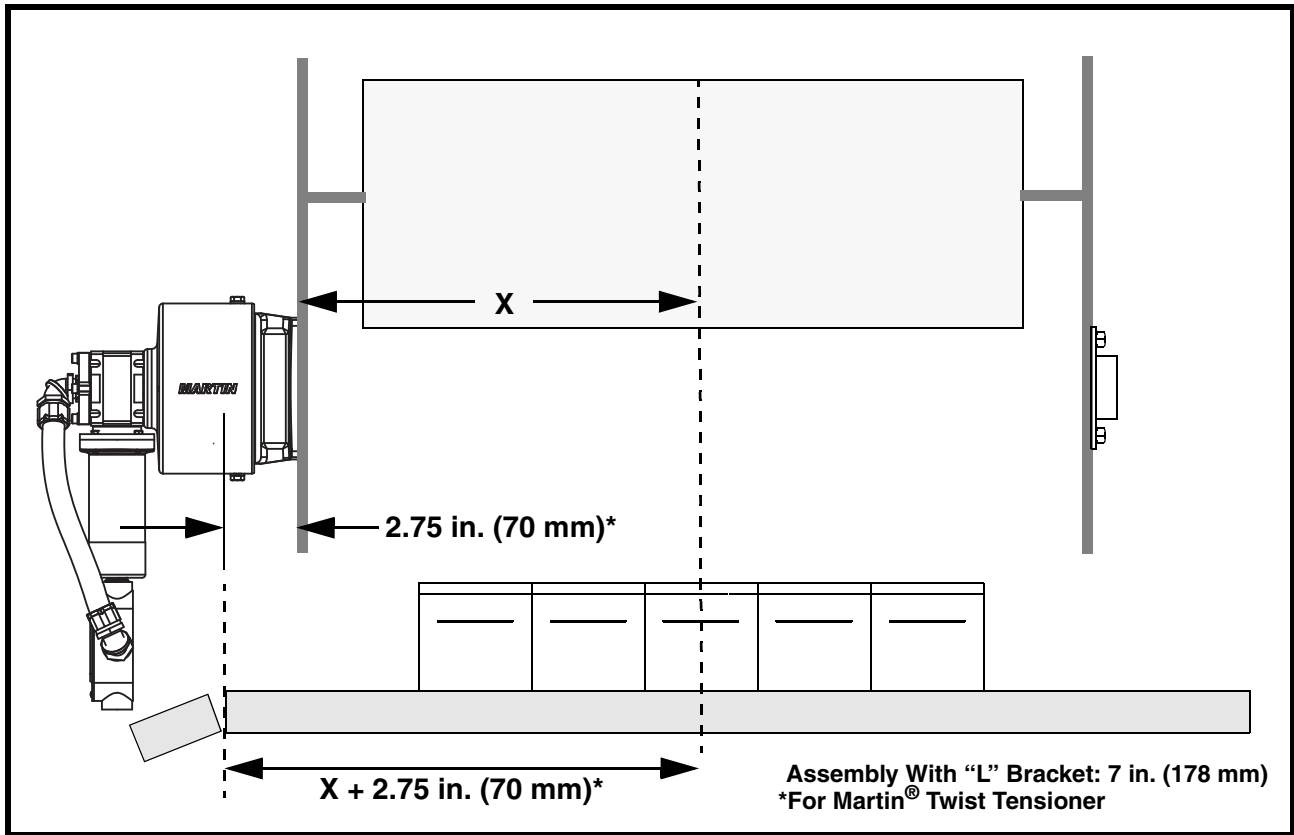

Figure 6. Cutting Belt Cleaner Mainframe
1. See Figure 6. Measure from center of conveyor belt to outside of operator side chute wall (X).